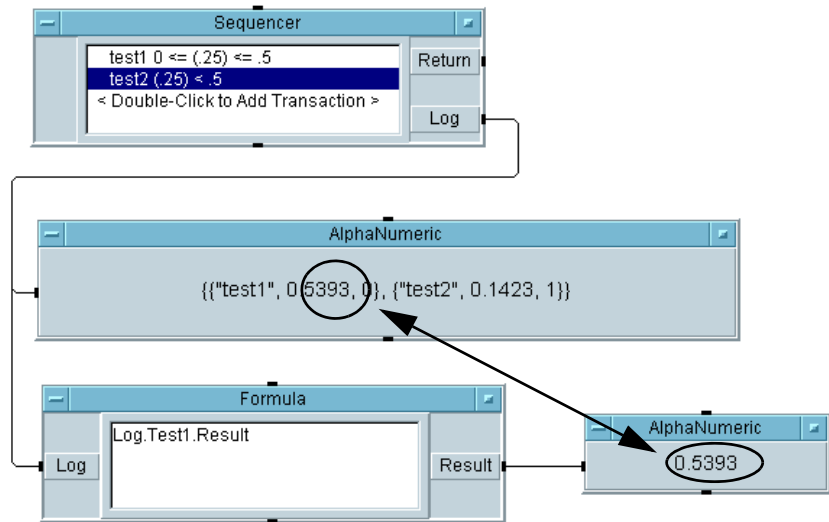

Figure 236 Accessing Logged Data
- 4 Run the program and it should access the Result field in Test1. Save the program as **seq2.vee**. The program should look like Figure 236.